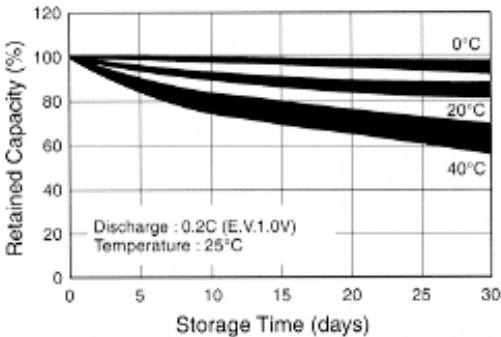

Figure 2-40. NiMH Battery Storage Characteristics
It is normal for NiMH batteries to self-discharge during storage (Figure 2-40) and to degrade to 80% of original capacity after 12 months of continuous use.
- Storing the battery in extreme hot or cold places will reduce the capacity and lifetime of the battery. The battery will discharge faster at higher ambient temperatures (see Figure 2-40).